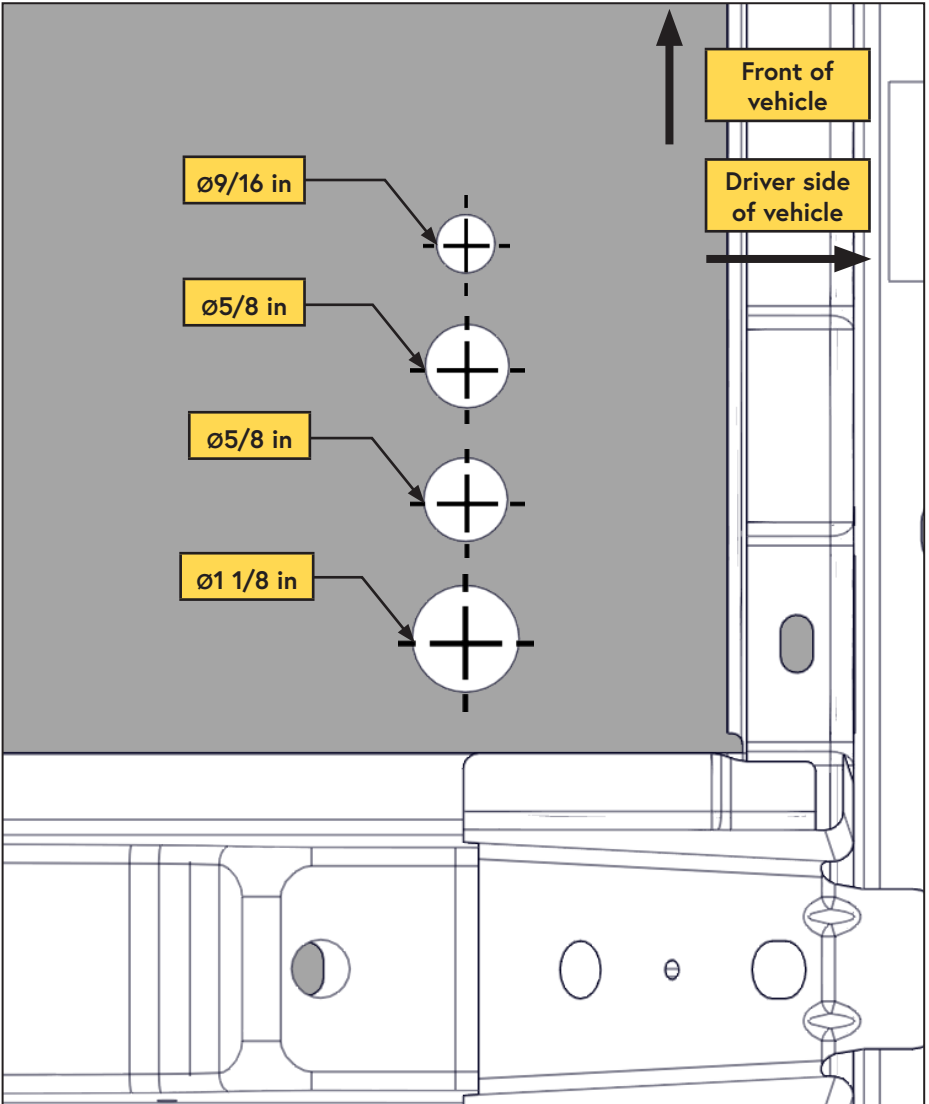
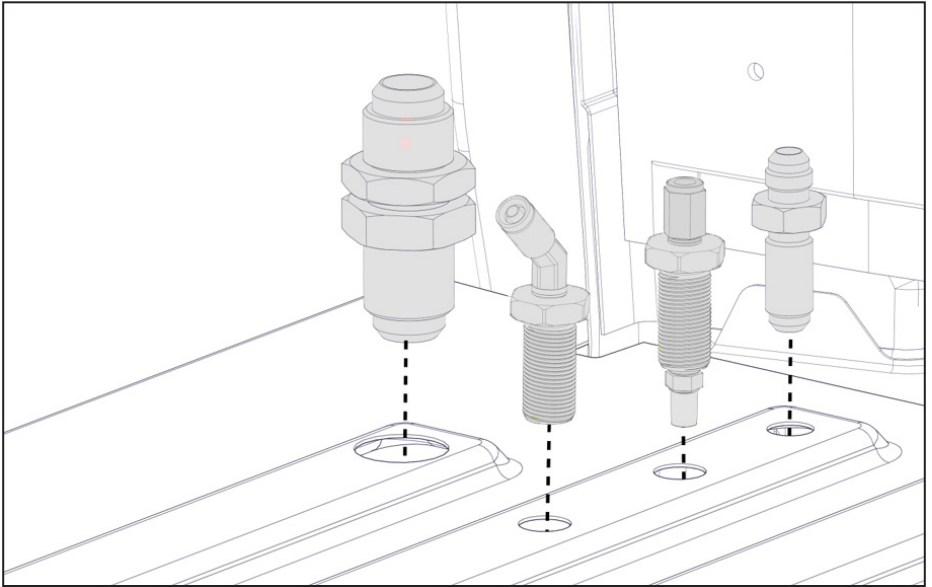
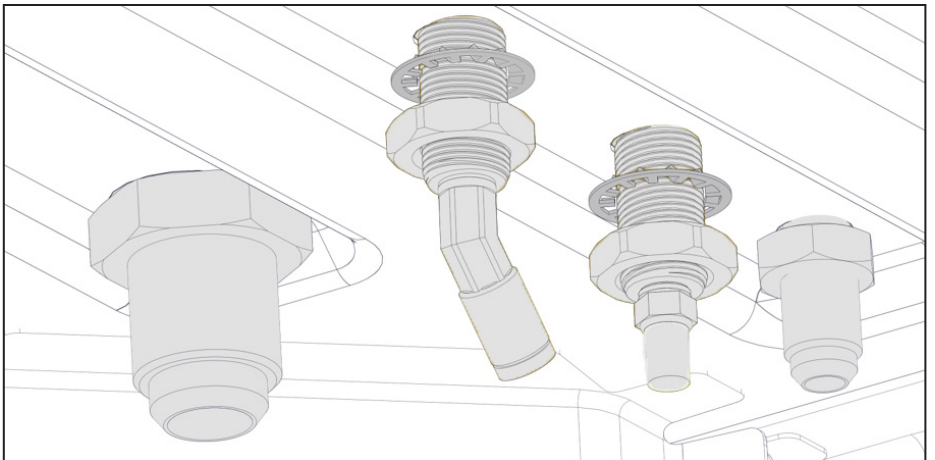

Figure 34 — Vehicle Chassis bottom view
Figure 35 — Interior View
Figure 36 — Exterior View
- Drill the bulkhead fitting holes using a drill, step drill or hole saw. Leave enough room between the fittings to allow access for a wrench (Figure 34, Figure 35, Figure 36).
- Fit the bulkhead fittings through the top of the hole and secure from the bottom with the supplied nuts. Apply Loctite 567 (thread sealant) when installing the 1/4 in push-to-connect fittings in the bulkhead fittings (Figure 35, Figure 36).
- Connect the 90° fitting on the 3/4 in x 28 in hose to the #12 JIC fitting (air/oil inlet) on the cooler above the fan (Figure 34).
- Connect the 90° fitting on the 3/8 in x 28 in hose to the #6 JIC fitting (oil return fitting) beneath the oil filter on the tank (Figure 34).